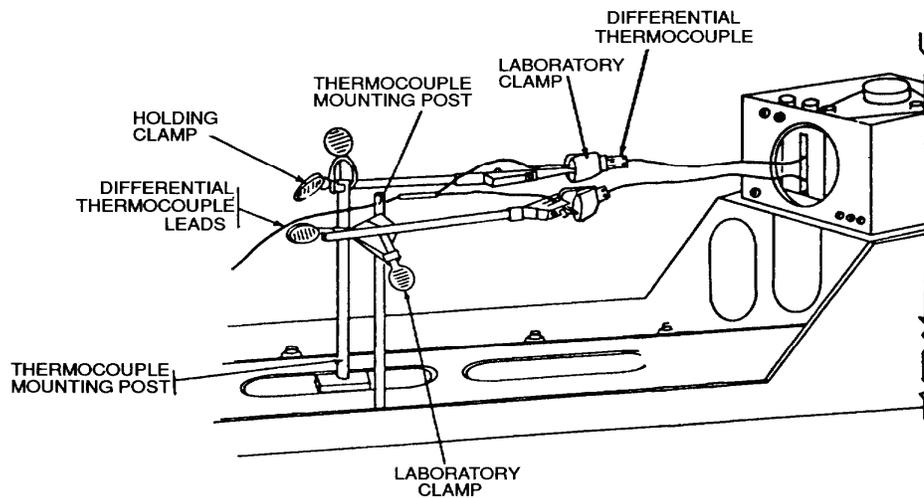
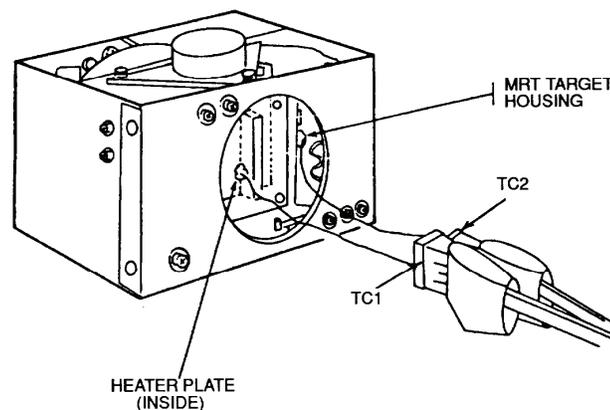

Figure 2. Equipment setup.
Figure 3. Temperature controller – heater plate.
- c. Connect equipment as shown in figure 2 and as described in (1) and (2) below:
- (1) Install thermocouple mounting post (pair) on base of TI (approximately center of second slot pair from exit port).
- (2) Clamp differential thermocouple set (pair) in laboratory clamps and install on thermocouple mounting posts, using mounting post clamps.
- d. Using cotton tip applicator wood end, daub a small amount of thermally conductive paste on the extreme bottom of heater plate (fig. 3) on front of temperature controller.
- e. Place tip of thermocouple TC1 (fig. 3) against bottom of heater plate, in the thermally conductive paste.
g. Increase tension on thermocouple TC1 (fig. 3) to produce a moderate bow in thermocouple wire by sliding laboratory clamp forward (toward temperature controller) in mounting post clamp; then tighten mounting post clamp.
h. If necessary, physically position thermocouple TC1 on heater plate to the position shown in figure 3.
i. Daub a small amount of thermally conductive paste on side of brass housing of **MRT** target housing (fig. 3) (on temperature controller) and place tip of thermocouple TC2 (fig. 3) in the thermally conductive paste.
j. Repeat technique of f through h above for thermocouple TC2 (fig. 3).
k. Place leads from differential thermocouple (fig. 2) on base of TI near exit port.